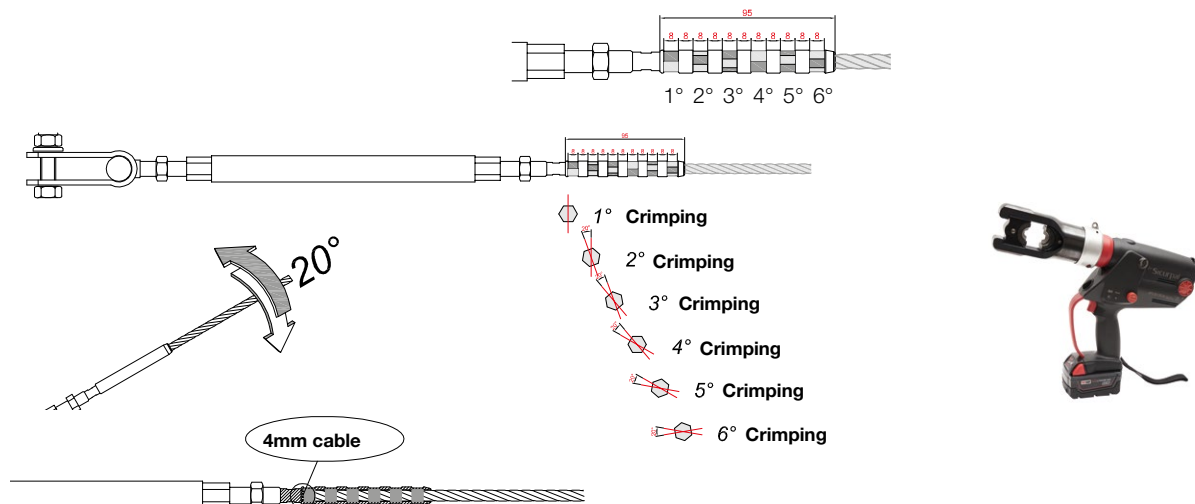

Figure 5.1 - Crimping
- c) Perform subsequent crimps at a distance of approximately 8 mm from the previous one by rotating the crimping machine approximately 20° each time (see **Figure 5.1**). This operation is compulsory at an aesthetic level to avoid a non-linear and off-axis shape of the tube.